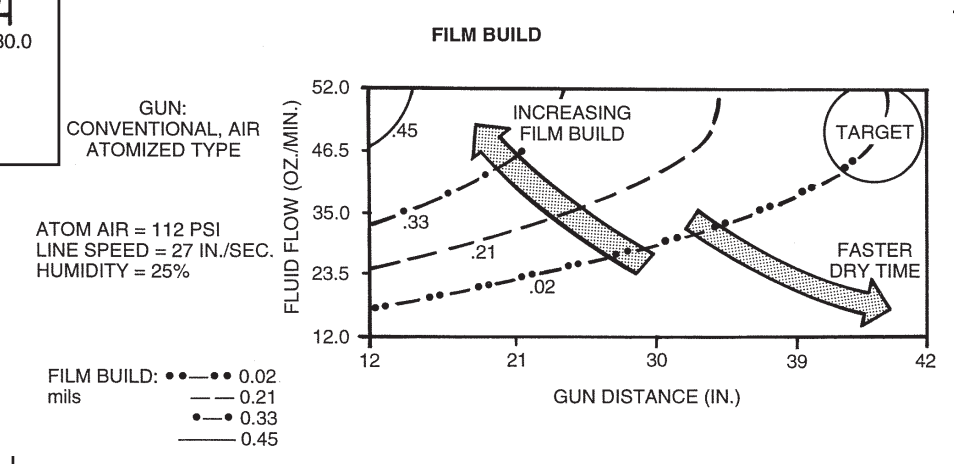

Figure A-7
- Increasing gun distance reduces dry time. This is because water evaporates more quickly from airborne spray droplets than from the target surface (Figure A-7).